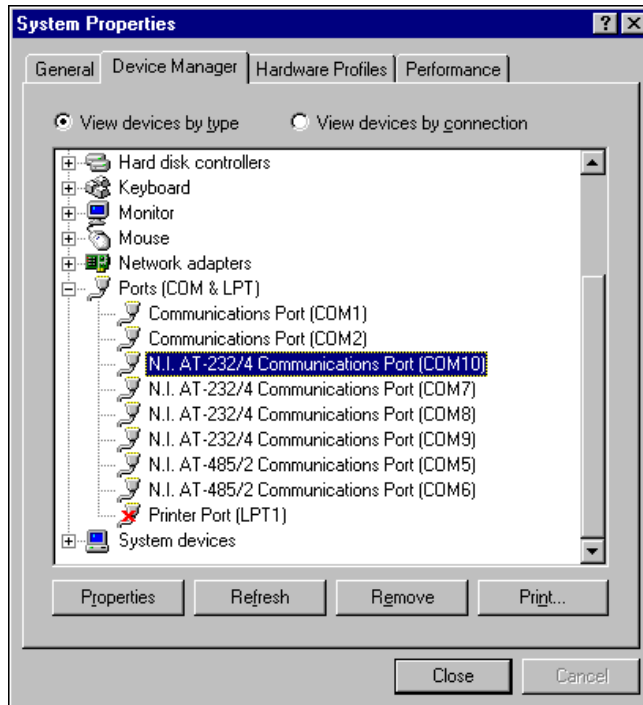

Figure D-3. Ports List in Device Manager
6. Select a National Instruments port name from the list of ports that corresponds to a serial port (for example, COM 5, COM 6, COM 7, or COM 8). Figure D-3 shows the **Ports** list in the **Device Manager** with a port selected. (This example shows an AT interface.)